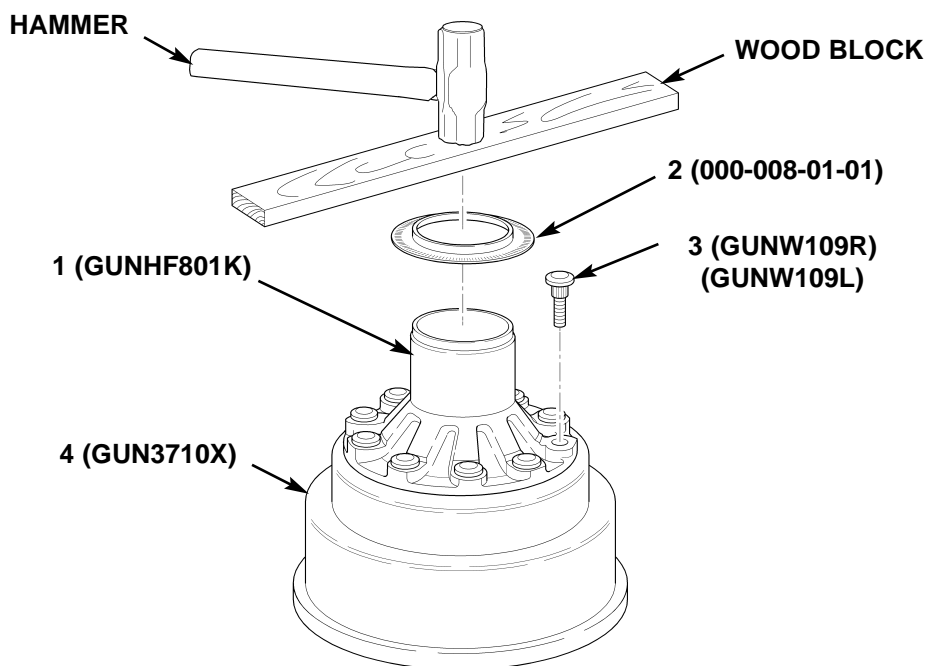

Figure 24. Installing Wheel Studs and Front Tone Ring.
11. Position new front hub (figure 24, item 1) facing down on new front brake drum (figure 24, item 4) with wheel stud holes aligned.
12. Install 10 new right-hand threaded studs (figure 24, item 3) on front hub (figure 24, item 1).
13. Using block of wood and hammer, drive new front tone ring (figure 24, item 2) on front hub (figure 24, item 1) until seated.
14. Repeat steps 11 through 13 for installation of new left-hand threaded studs and new tone ring on opposite new front hub (figure 24, item 1).